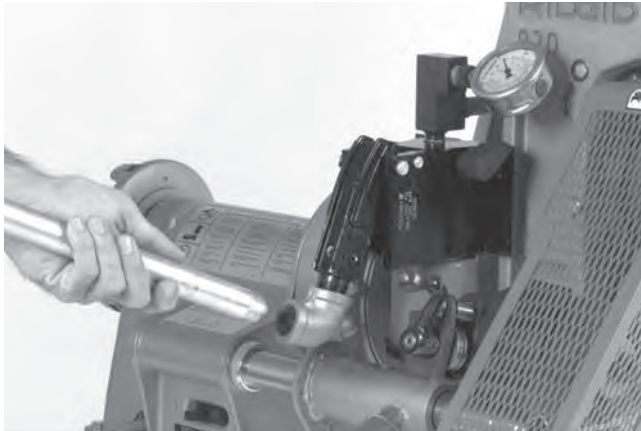

Figure 8 – Installing Pump Handle
9. Install pump handle by screwing it into the elbow (Figure 8).